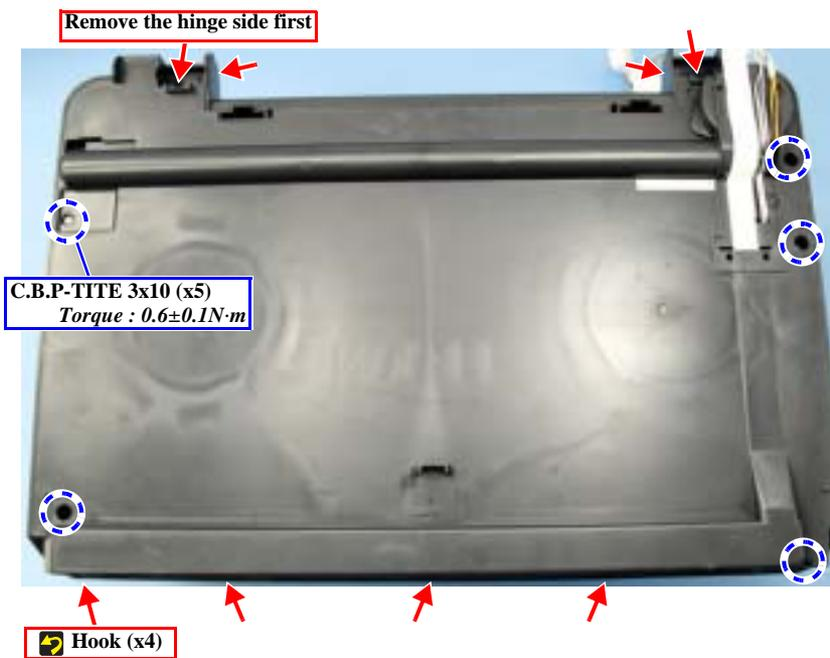

Figure 4-42. Removing the Scanner Housing
3. Remove the screws (x5) on the bottom of the Scanner Unit. (Fig. 4-42)
- When installing the Scanner Housing, the CR Shaft may come off. To avoid such problem, with the Lower Housing placed in the upright position, install the Scanner Housing, its front side with the hooks (x4) first, while taking care not to cause whitening. (Fig. 4-42)